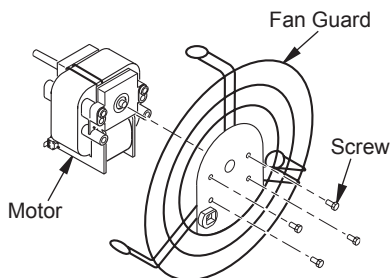

Figure 8 - Removing or Attaching Fan Guard from Motor
4. Remove two nuts and two screws that attach fan guard to motor using nut-driver. Remove fan guard from motor (see Figure 8).